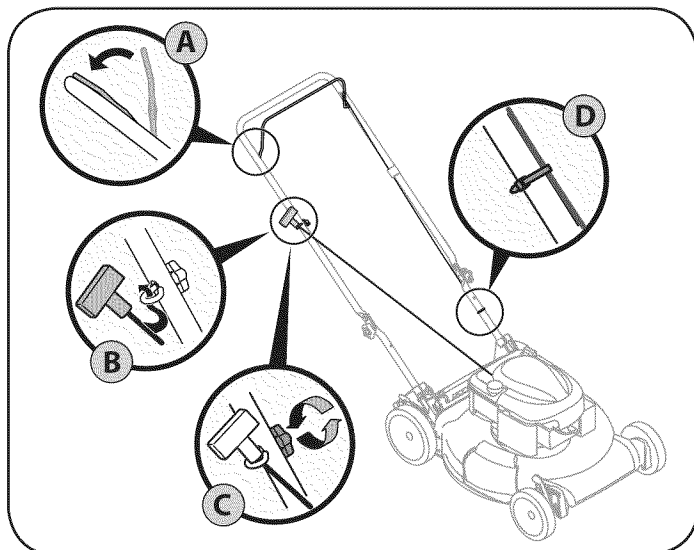

Figure 6
4. The rope guide is attached to the right side of the upper handle. Loosen the wing knob which secures the rope guide. Refer to Figure 6.
- B. Slowly pull starter rope handle from engine and slip starter rope into the rope guide. See Figure 6.